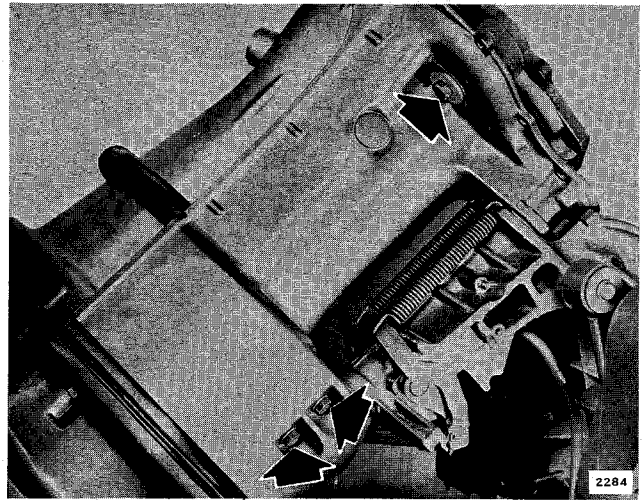

Figure 6-8. Exhaust Housing Attaching Screws
- c. The exhaust housing and adapter plate, which carry the power head and thermostat, are rubber mounted to the front exhaust cover. To release the exhaust housing, disconnect the shift linkage, and remove the two bottom screws from the upper side rubber mounts, and the four lower front mount screws. See Figures 6-8 and 6-9.